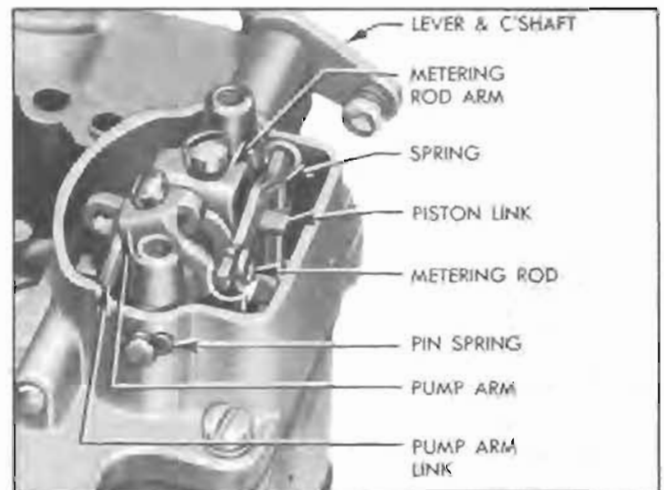

Figure 3-33—Removal of Metering Rods and Operating Parts
6. Remove dust cover. Rotate eyes of metering rods off pins on vacuum piston link and lift rods out, using care to avoid bending them. See figure 3-33.
7. Loosen screws in metering rod and pump arms, and remove pump arm link. Remove pin spring from end of pump operating countershaft, pull countershaft out and remove arms at the same time. See figure 3-33.
18. Coat pump operating countershaft with light graphite grease and start it into bearing in bowl cover. While holding metering rod arm so that it engages opening in vacuumer piston link and pump arm so that it extends over pump plunger rod, push countershaft through both arms, then install pin spring in groove in end of countershaft. See figure 3-33.
22. Insert end of each metering rod in hooked end of metering rod spring, carefully push rod down to enter metering rod jet, then rotate eye of rod over pin on vacuum piston link. Use care to avoid bending metering rod. See figure 3-33.